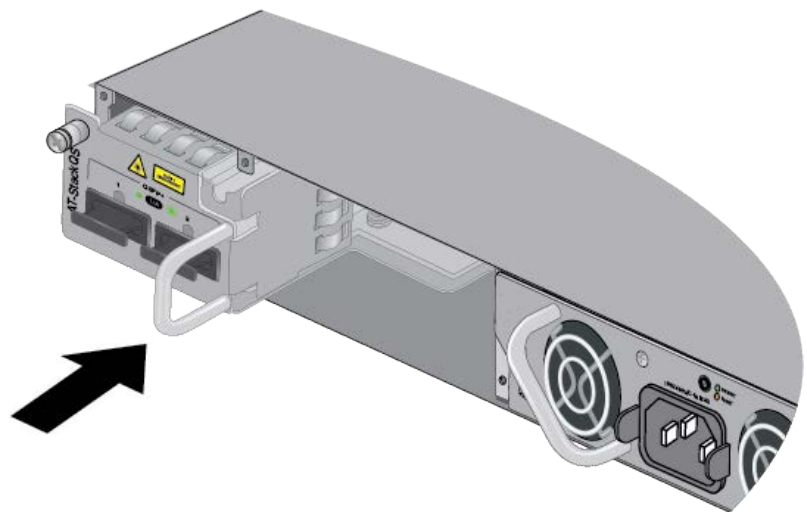

Figure 47. Seating the Card in the Switch
9. When you feel the card make contact with the connector inside the switch, gently press on the handle to seat it on the connector. Refer to Figure 47.